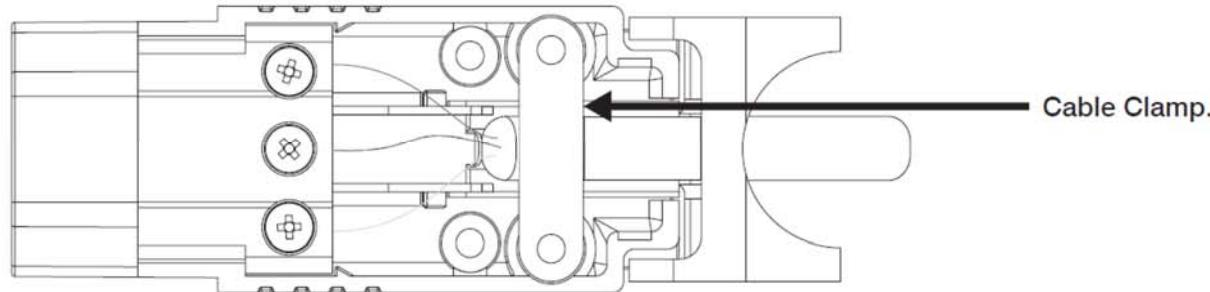

Fig. 6.
**Replace the cord grip (Fig. 6.) ensuring the torque value is achieved (0.3Nm), and then replace the cover plate and screws.**